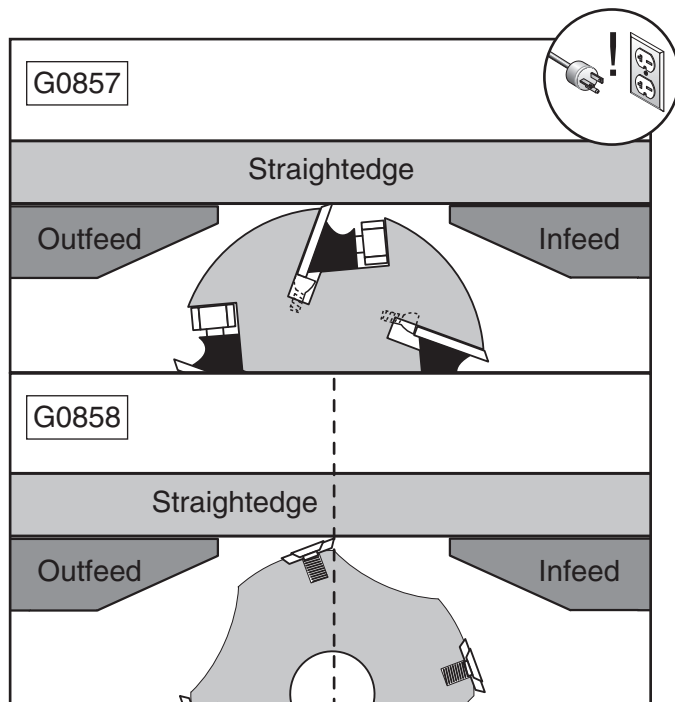

Figure 65. Infeed table even with outfeed table.
4. Adjust the infeed table until it is even with the outfeed table (see **Figure 65**).